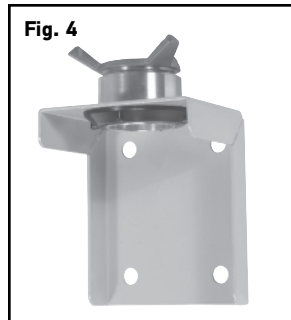

Fig. 4
2.) Universal "Stub" Pumps, fig. 3. Stub pumps may be fitted with a 1" NPTM extension pipe and foot valve, P/N 950002 to adapt to most any tank situation (use 1½" in the case of high flow pump P/Ns 21200 and 21300 with 1½" foot valve, P/N 950047). Alternatively, these pumps may be wall mounted with the use of an available wall mounting bracket, P/N 22242 or P/N 22243, fig. 4.